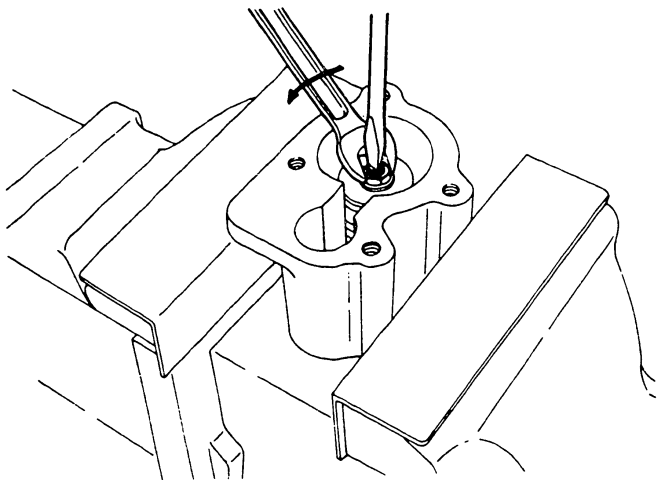

Fig. 95 Removing the locknut
44. Fix the boost compensator assembly (320) in the vise (use the jaw cover).
45. Using a screwdriver to hold the shaft, remove the locknut (320/15) and the disc (320/14). (Fig. 95)